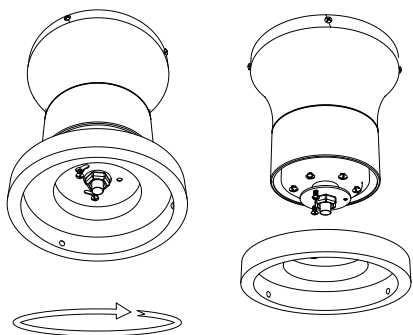

Figure 4
④ Twist the disc clockwise and take it down. (Figure 4)